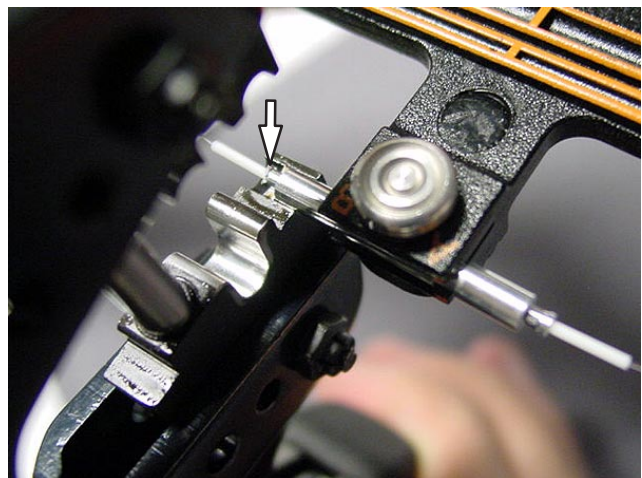

Figure 50
12. Position the splice assembly into the die set as shown in Figure 50 and crimp the buffer by closing the handles until the ratchet releases.